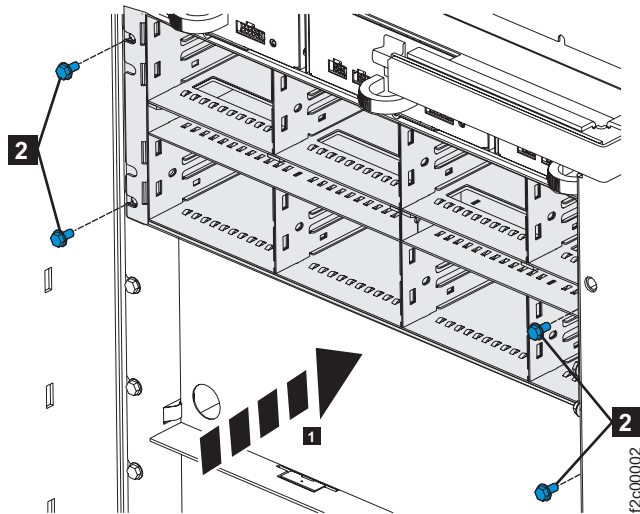

Figure 89. Install the storage enclosure
- b. Install the storage enclosure in the rack and fasten it with the four screws **2** provided. See Figure 89 on page 112.